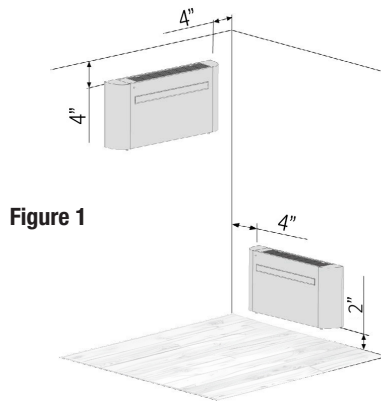

Figure 1
This unit must be installed on an external wall, as it vents directly out of its rear. Ensure the wall is flat, solid and reliable. Leave at least 4" of space to the left, right and top of the machine. At least 2" of space must be left at the bottom of the unit. Stay away from curtains, plants, faucets, furniture and appliances etc. Figure 1.
1. Please note of the clearances noted on Figure 1.